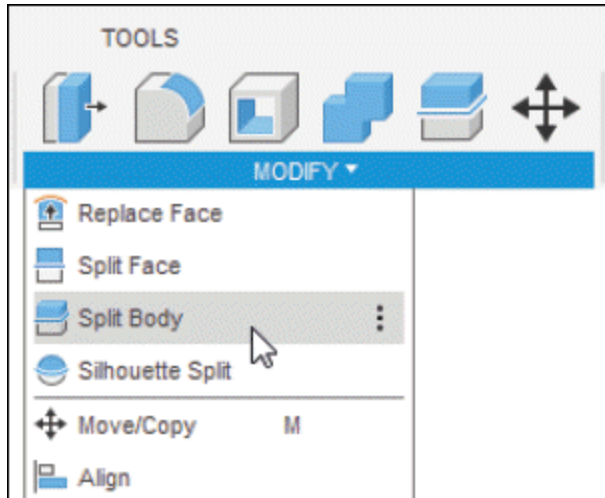
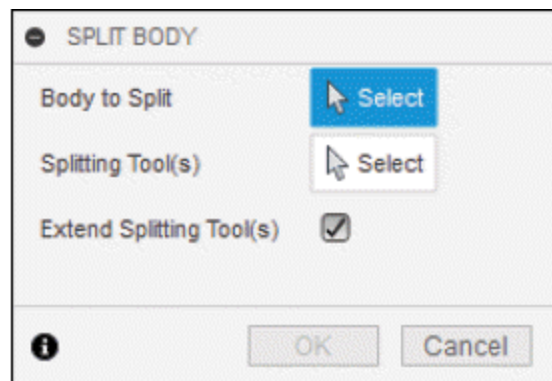

Figure-45. Split Body tool
Figure-46. SPLIT BODY dialog box
- Select **Split Body** tool of **MODIFY** drop-down from **Toolbar**; refer to Figure-45. The **SPLIT BODY** dialog box will be displayed; refer to Figure-46.